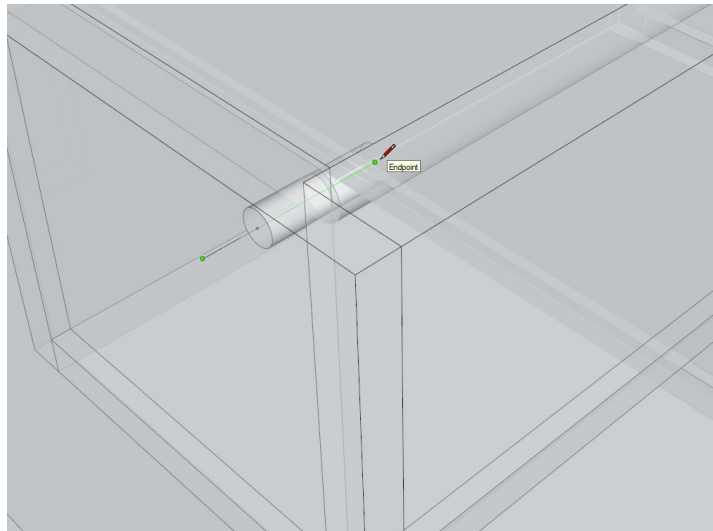

Figure 25. With the Front component open for edit, trace over the dowel centerline
Step 9 To create the socket for the dowel in the Front and Back, turn on X-ray Style, and zoom into the top corner of the Chest where the dowel hinge is located. See Figure 25. Open the Front component for editing and with the Line Tool trace over the dowel centerline. This will precisely locate the center of the socket in the Front and Back components. It helps to tap the Left Arrow key to force the line on the Green axis.